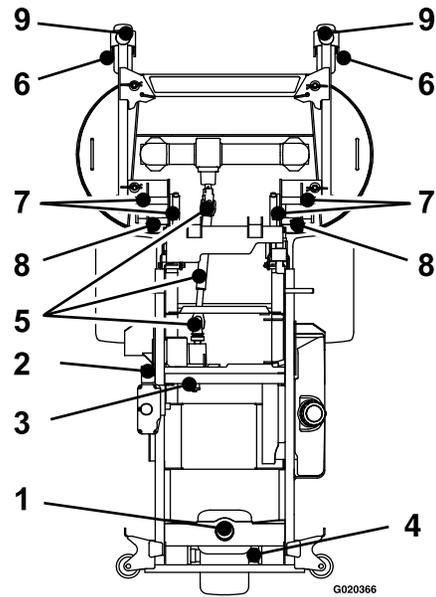

Figure 27
- Lubricate the pump-belt idler arm (Figure 27).